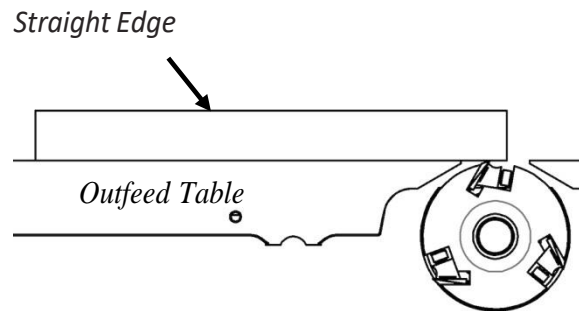

Figure 30: Checking Outfeed Table
**STEP 2:** Place a straight edge on the outfeed table halfway over the cutterhead as shown in **FIG. 30**. Rotate drive belt, if necessary, to bring an insert knife to top-dead-center for referencing to straight edge.
**STEP 4:** Loosen cap screw on the back (inside) of the outfeed table adjustment lever as shown in **FIG. 32**. Lower the outfeed table to adjust the straight-edge level with the top dead center of the knife inserts as in **FIG. 30**.